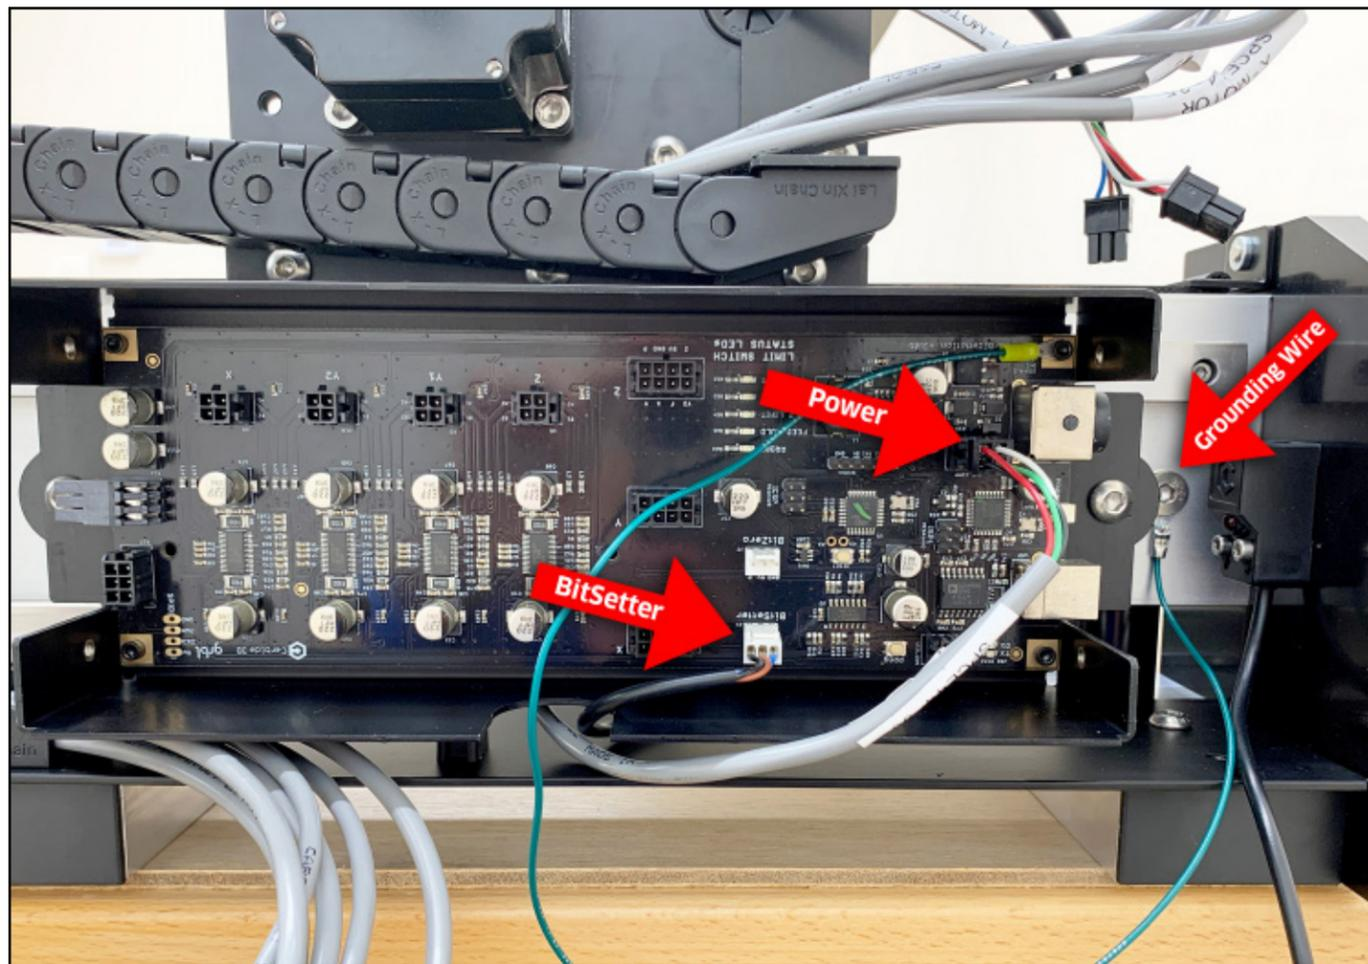

Figure 9-2
1. Screw the two (2) controller standoffs into the second and sixth threaded holes from the REAR of the Y-Right rail. Hand tighten.
- a. Power and USB to the back. **See Fig. 9-2.**
4. Use a 4mm hex key and two (2) M6×12mm BHCS to secure the controller to the standoffs. Fully tighten.
1. Use a 4mm hex key and one (1) M6×10mm FHS (found in the Extra Hardware Bag) to secure the green grounding wire to the first threaded hole from the rear of the rail. **See Fig. 9-2.**